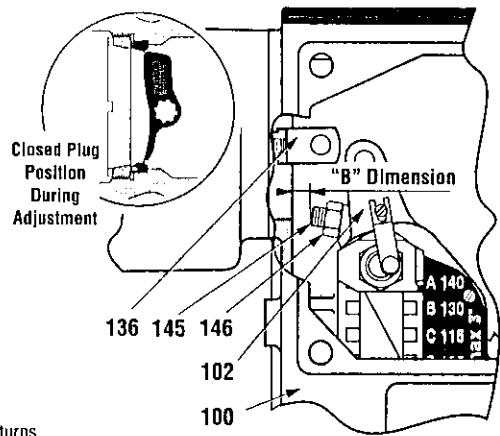

Figure 8: Torque Stop Adjustment
11. Torque Stop Adjustment (figure 8)
- A. When actuator clevis (136) is disconnected from the adjustment lever (102), manually push this lever to close the valve by applying the plug against the seat ring.
- B. Loosen the locknut (146) and screw the torque stop screw (145) until it contacts the left inner side of the actuator case (100). Then, unscrew the torque stop screw so as to obtain the "B" distance indicated by the Figure 8. The Figure 8 indicates the number of thread turns corresponding to each "B" distance. Tighten locknut (146).